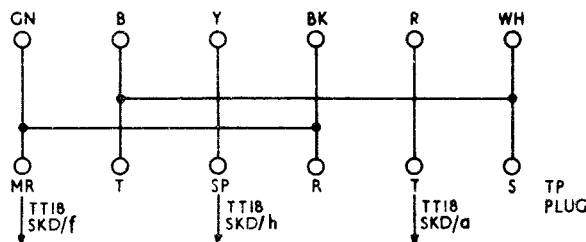

Fig. 2-2 Teleprinter Internal Connections
- If using the Creed type 75 teleprinter the internal connections to the Send/Receive and Mark/Space contacts must conform to Figure 2.2 (Below).